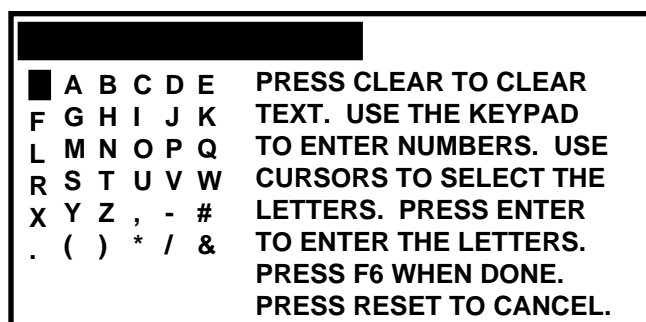

Figure 4-11. Custom Name screen superimposed over "Set cam names" display
You use this choice to name the press on which SmartPAC is installed. As the screen suggests (refer to Chapter 3 or see Figure 4-11 in this chapter for an illustration), certain keys enable you to name the press. The name you choose can be any combination of alpha-numeric characters, symbols, etc. Pressing the CLEAR key clears the text. To make other entries, do the following:
1. Select "Custom 1", by highlighting and pressing Enter. Note that the custom name screen is superimposed over the above display (refer to Figure 4-11 for illustration).